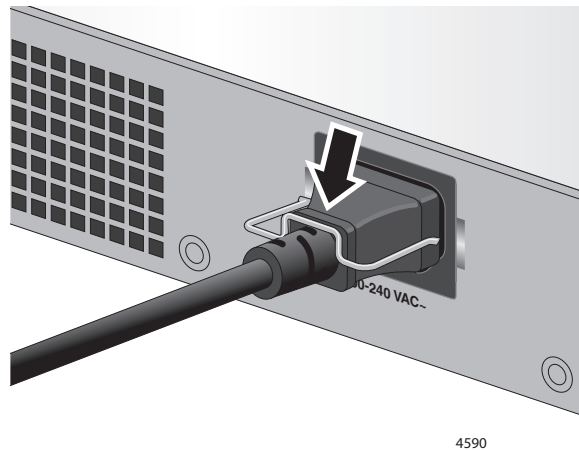

Figure 66. Lowering the Power Cord Retaining Clips
3. Lower the power cord retaining clips to secure the cords to the switch. Refer to Figure 66.